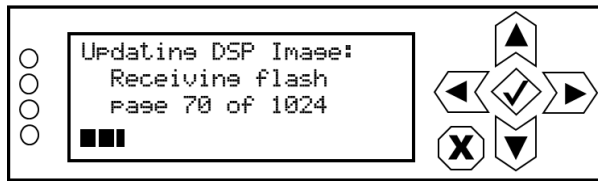

Figure 12: Controller UI – ‘Updating DSP Image’ screen
The events in steps (d) and (e) occur almost simultaneously. In some cases, the screen in Figure 12 may take approximately one (1) minute to appear.
- (e) The controller UI will display the screen in Figure 12. This firmware update may take up to five (5) minutes.